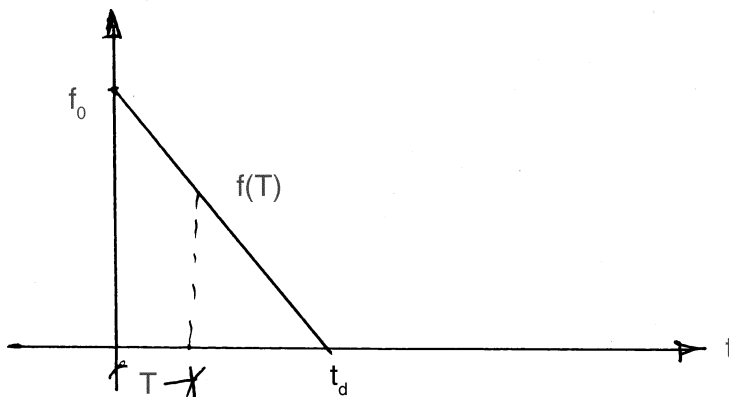

Figure 1. Q. 3)
3. A SDOF system is subjected to a transient force as shown in the following figure 1. Derive the expression for magnification factor for the forced as well as free vibration phases. 17